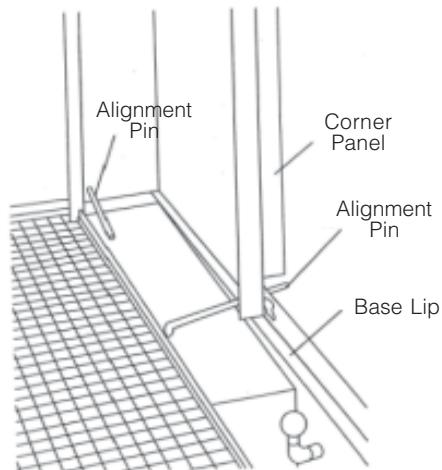

Figure 3-8. Insert Alignment Pins
5. Position bottom of corner panel on base lip. Using your foot, hold bottom of panel on the lip and raise panel up into place. Insert alignment pins, one on either end, to align panel and base bolt holes (see Figure 3-8).